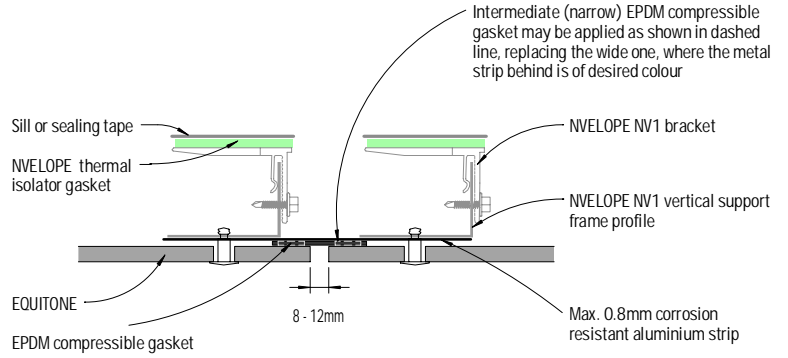

Figure 6: Vertical joint - Detail 2
- 1) In Figure 6 & 7, the aluminium strip should be fixed ONLY to one of the support frame profiles (either left or right) where allowance for horizontal and/or vertical movement of the cladding frame is required.